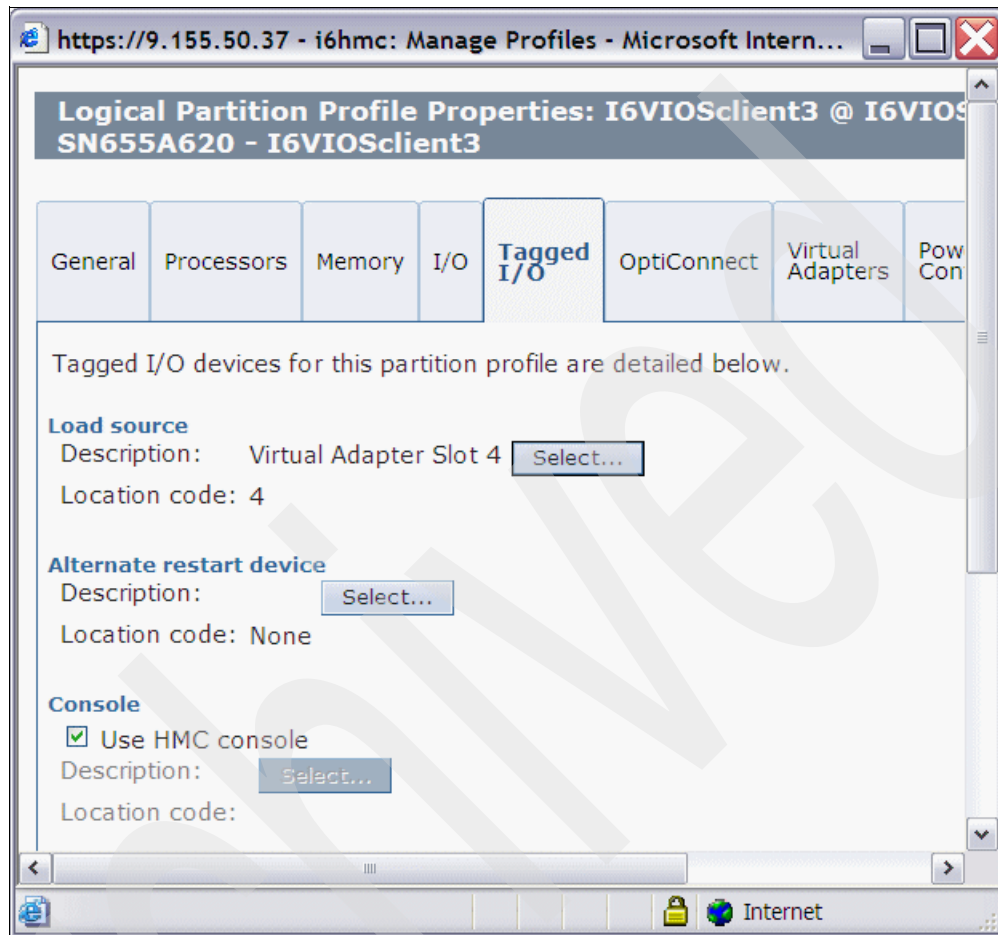

Figure 8-46 Virtual SCSI adapter tagged for load source
4. IPL the recovery partition that is connected to metro mirroring secondary logical drives via VIOS. In HMC, check that the virtual SCSI adapter in the recovery partition is tagged for load source, as shown in Figure 8-46, and IPL the recovery partition.